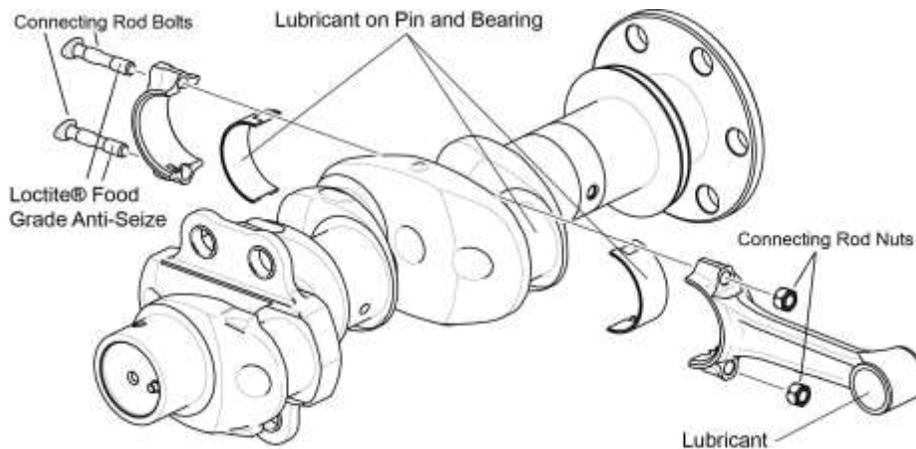

Figure 50
- (1) Ensure that all of the connecting rods have the same weight class letter.
- (2) Apply specified lubricant to the connecting rod per the latest revision of Service Instruction No. SI-1059 where shown in Figure 50. Different lubricants are used on the various areas on the connecting rod and bearing surfaces.
- (6) Apply Loctite® Food-Grade Anti-Seize Lubricant or equivalent to the bottom two or three threads of the new connecting rod bolts (Figure 50). Wipe away excess lubricant with a clean, lint-free cloth.
- (7) Apply engine oil mixture to the crankpin journals.
- (8) Install each connecting rod end cap (with the bearings installed) on their respective crank pins on the crankshaft (where the numbers on the connecting rods and bearing locks point down - toward the oil sump.)